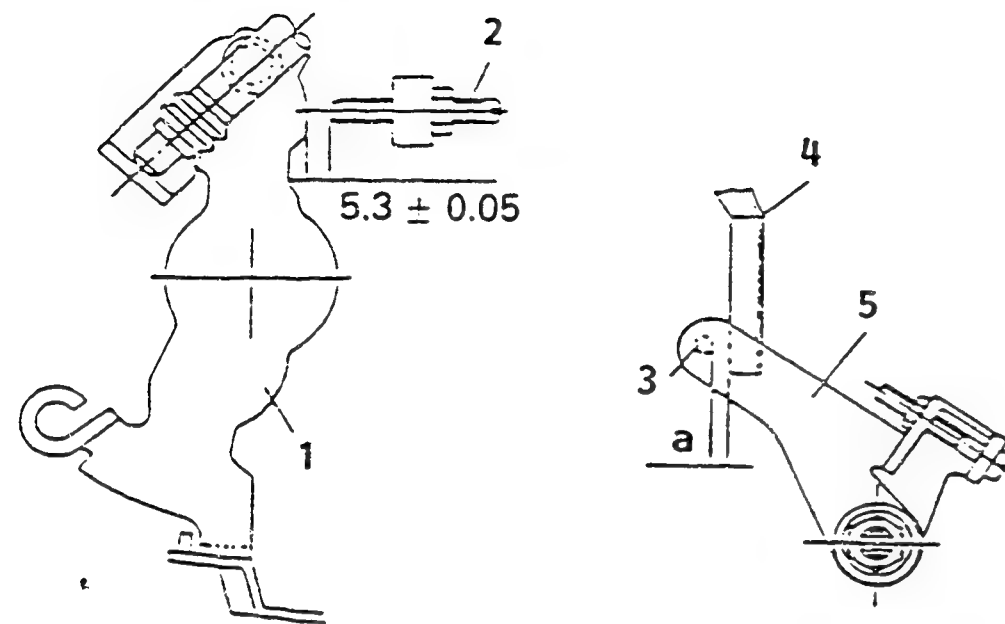

Fig. 20
1. Timer stroke adjustment (refer to Figs. 20 and 21)
2. Fast Idle Adjustment (Refer to Figs. 20 and 21)